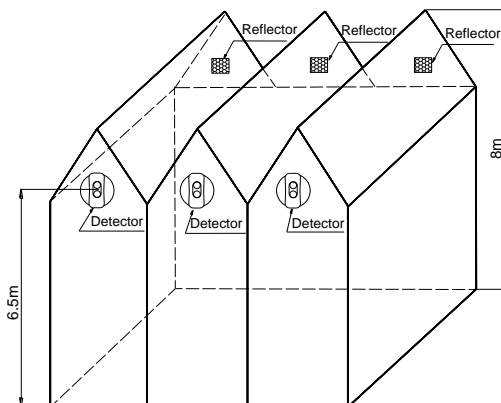

Fig. 6
- (4) For gable structure with space height about 8m, the detector and reflector should be mounted on the two facing walls 1.5m from the gabled girder, as shown in Fig. 6.